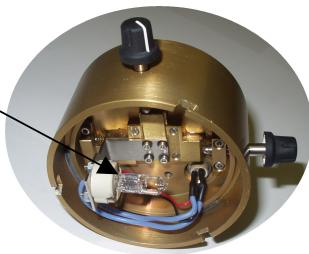

Figure 16. Source Module End Cap detail
Step 3) The faulty bulb should be removed from the ceramic holder and disposed of, see Figure 16.